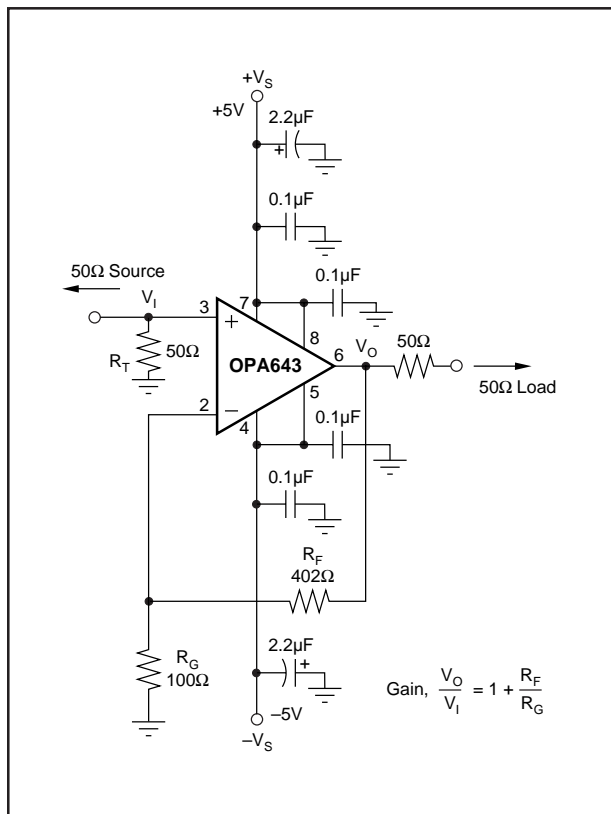

FIGURE 1. Gain of +5, High Frequency Application and Characterization Circuit (P or U Package).
The OPA643's combination of speed and dynamic range is easily achieved in a wide variety of application circuits, providing that simple guidelines common to all high speed amplifiers are observed. For example, good power supply decoupling, as shown in Figure 1, is essential to achieve the lowest possible harmonic distortion and smooth frequency response. Careful PC board layout and component selection will maximize the performance of the OPA643 in all applications, as discussed in the remaining sections of this data sheet.
Figure 1 shows the gain of +5 configuration used as the basis for most of the Typical Performance Curves. Most of the curves were characterized using signal sources with 50Ω driving impedance, and with measurement equipment presenting 50Ω load impedance. In Figure 1, the 50Ω shunt resistor at the V_I terminal matches the source impedance of the test generator, while the 50Ω series resistor at the V_O terminal provides a matching resistor for the measurement equipment load. Generally, data sheet specifications refer to the voltage swing at the output pin (V_O in Figure 1). The total 100Ω load from the series and shunt matching resistors, combined with the 502Ω total feedback network load, presents the OPA643 with an effective output load of approximately 83Ω.
To deliver the lowest possible distortion using the 8-pin SO-8 or DIP package, additional 0.1μF power supply decoupling capacitors on pins 5 and 8 are required. These are shown in Figure 1. Although pins 5 and 8 are internally connected to pins 4 and 7 respectively (the standard supply pins for 8-pin op amps), the additional capacitors help to decouple the package lead inductances and decrease the second-harmonic distortion for a 5MHz fundamental by approximately 4dB. The much shorter bond wires and supply leads of the SOT23-5 package give the best distortion performance while requiring only two power supply connections.
Since the OPA643 is a voltage feedback op amp, a wide range of resistor values may be used for the feedback and gain setting resistors (R_F and R_G in Figure 1). The primary limits to these values are set by dynamic range (noise and distortion) and parasitic capacitive considerations. Usually, the feedback resistor value should be between 200Ω and 1kΩ. Below 200Ω, the feedback network will present additional output loading which can degrade the harmonic distortion performance of the OPA643. Above 1kΩ, the typical parasitic capacitance (approximately 0.2pF) across the feedback resistor may cause unintentional band-limiting in the amplifier response.
A good rule of thumb is to target the parallel combination of R_F and R_G (Figure 1) to be less than about 200Ω. The combined impedance $R_F || R_G$ interacts with the inverting input capacitance, placing an additional pole in the feedback network and thus a zero in the forward response. Assuming a 3pF total parasitic on the inverting node, holding $R_F || R_G < 200\Omega$ will keep this pole above 250MHz. By itself, this constraint implies that the feedback resistor R_F can increase to several kΩ at high gains. This is acceptable as long as the pole formed by R_F and any parasitic capacitance appearing in parallel with it is kept out of the frequency range of interest. The exception to this is in wideband transimpedance applications as described earlier. There, a feedback pole is used to compensate for the zero formed by the input capacitance and the feedback resistor.
Generally, until the fundamental signal reaches very high frequencies or powers, the second harmonic will dominate the distortion with negligible third harmonic component. Focusing then on the second harmonic, increasing the load impedance improves distortion directly. Remember that the total load includes the feedback network—in the non-inverting configuration this is sum of $R_F + R_G$, while in the inverting configuration it is only R_F (Figure 1). Larger output voltage swings lead directly to increased harmonic distortion. A 6dB increase in output voltage swing will generally increase the second harmonic by 12dB and the third harmonic by 18dB. Higher signal gain settings will also increase the second harmonic distortion. A 6dB increase in voltage gain will raise the second and third harmonics by
Evaluating these two equations for the OPA643 component values shown in Figure 1 will give a total output spot noise voltage of 13.3nV/√Hz and a total equivalent input spot noise voltage of 2.7nV/√Hz.
Narrowband communications systems are more commonly concerned with the Noise Figure (NF) for the amplifier. The total input referred voltage noise expression (Equation 2 above), may be used to calculate the noise figure. Equation 3 shows the noise figure expression using the E_N of Equation 2 for the non-inverting configuration where the input termination resistor R_T has been set to match the 50Ω source impedance (as shown in Figure 1).
Evaluating Equation 3 for the circuit of Figure 1 gives a Noise Figure = 15.9dB. Input transformer coupling can be used to reduce this noise figure. A broadband pulse transformer can provide both a noiseless voltage gain and a more optimum source impedance to minimize the noise figure. Figure 9 shows an example built from the circuit of Figure 1, in which the transformer turns ratio has been set to the closest integer for minimum noise figure. This optimum turns ratio is calculated by:
The OPA643 provides excellent DC signal accuracy due to the combination of high open-loop gain, high common-mode rejection, high power supply rejection, low input offset voltage and low bias current offset errors. The high grade (B) version of any package type provides less than 1.5mV input offset voltage. To take full advantage of this low input offset voltage, careful attention to input bias current cancellation is also required. The high speed input stage for the OPA643 has a relatively high input bias current (19μA typical into each input pin) but with a very close match between the two input currents—typically 100nA input offset current. The total output offset voltage may be considerably reduced by matching the source resistances which appear at the two inputs. For example, one way to include bias current cancellation in the circuit of Figure 1 would be to insert a 55Ω series resistor into the non-inverting input after the 50Ω terminating resistor, R_T . When the 50Ω source resistor is DC coupled, this will increase the source resistance for the non-inverting input bias current to 80Ω. Since this is now equal to the resistance appearing at inverting input ($R_F \parallel R_G$), the circuit will cancel the gains for the bias currents to the output, leaving only the offset current times the feedback resistor as a residual DC error term at the output. Using a 402Ω feedback resistor, this output error will now be less than $3\mu A \cdot 402\Omega = 1.2\text{mV}$ over the full temperature range.
As a worst case example, compute the maximum T_J using an OPA643N (SOT23-5 package) in the circuit of Figure 1 operating at the maximum specified ambient temperature of $+85^\circ\text{C}$. $P_D = 10\text{V} \cdot 26\text{mA} + 5^2 / (4 \cdot (100\Omega \parallel 502\Omega)) = 335\text{mW}$. Maximum $T_J = +85^\circ\text{C} + (0.335\text{W} \cdot 150^\circ\text{C/W}) = 135^\circ\text{C}$.